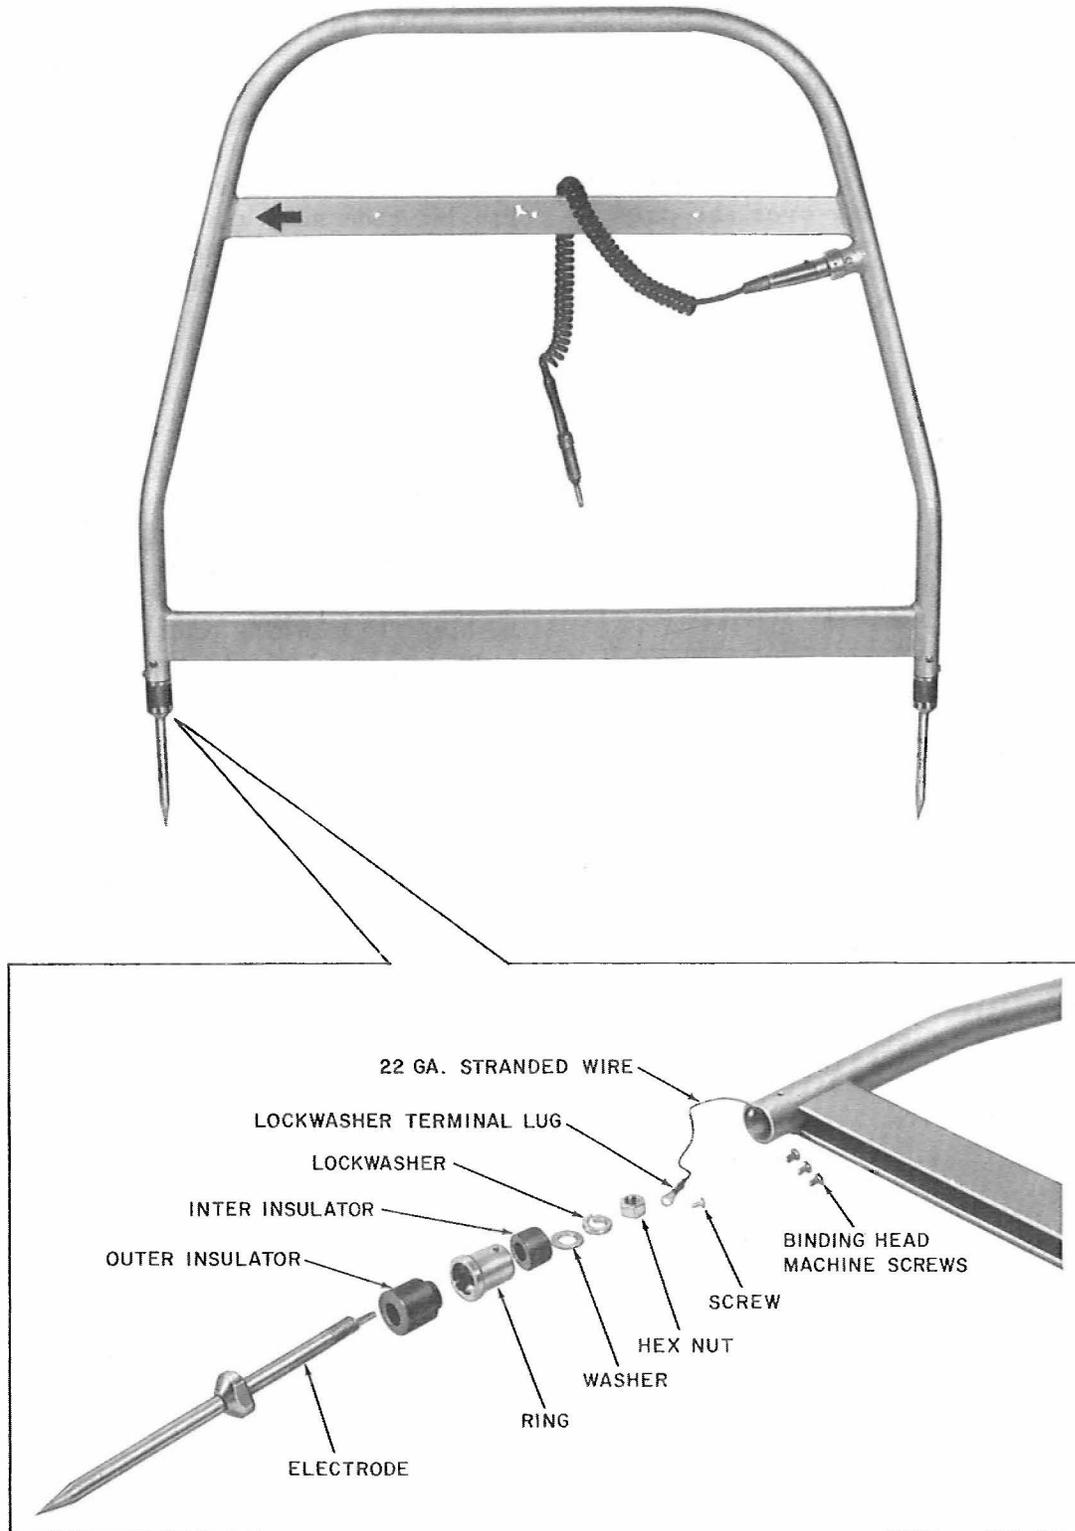

Fig. 10—B Ground Probe Disassembled
7.01 The probe can be disassembled as shown in Fig. 10 for part replacement. Binding head machine screws and hex nut are assembled with loctite No. 83 grade CV on the threads. Each electrode is insulated from the frame with fiber bushings. The wiring continuity can be checked from each electrode to the connector and the insulation of each probe from the frame. This should be done prior to use with an ohmmeter to assure satisfactory operation of the probe.